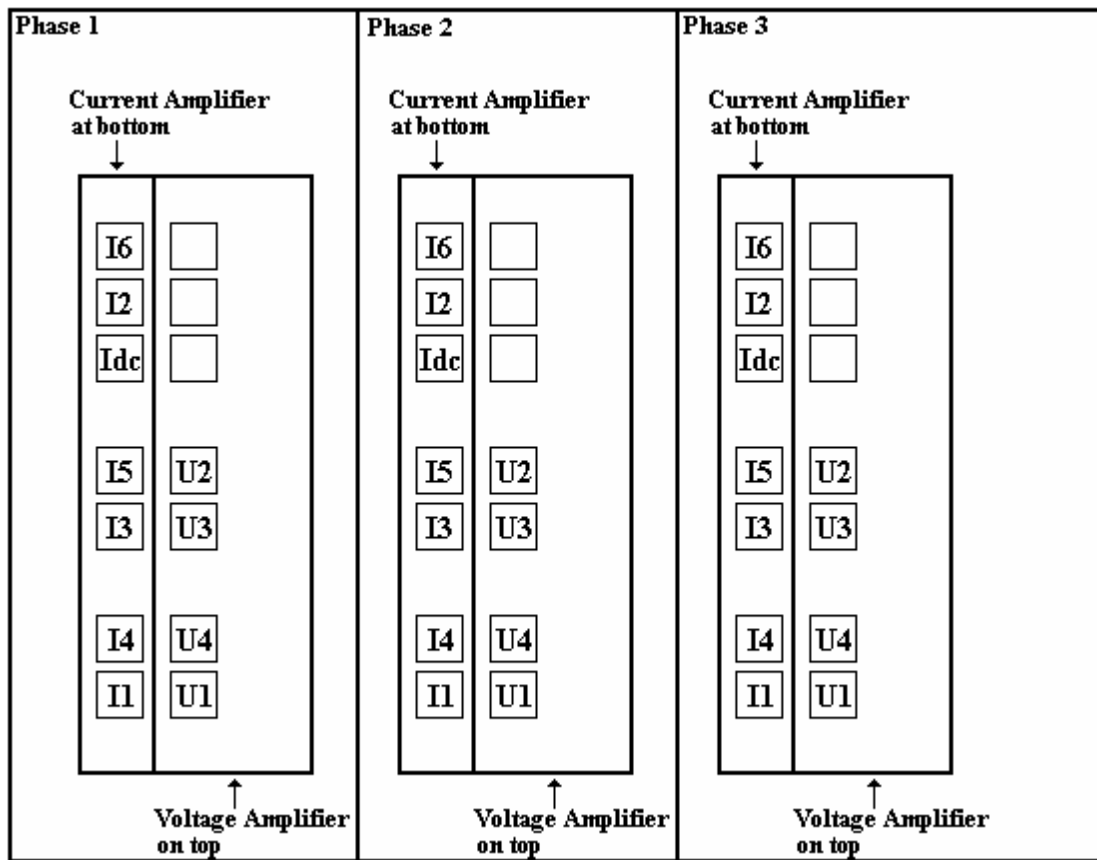

Figure 1: Location of Calibration Adjustments
- ✦ Figure 1 shows the locations that have to be adjusted.